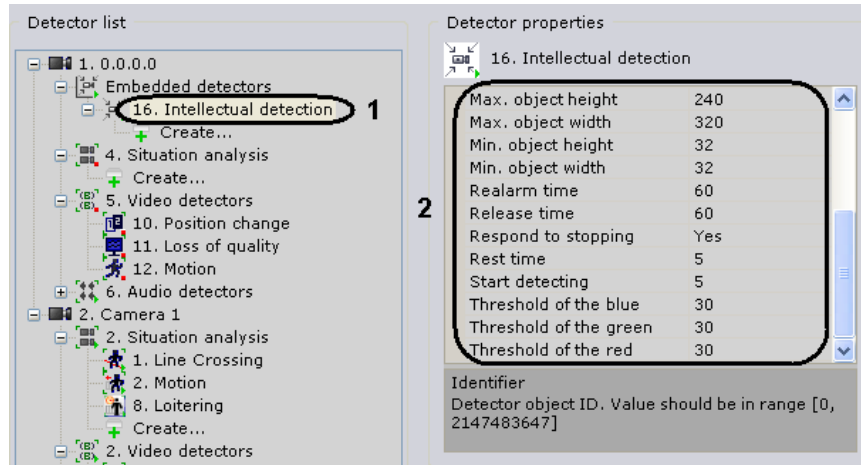

Fig. 6.4—21 Configuring a Sony Ipela detector
1. In the list of detectors, highlight an **Intellectual detection** object (Fig. 6.4—21, 1).
2. From the **Detect** list, select the desired detection mode: **Motion** or **Abandoned object** (see Fig. 6.4—21, 2).
3. If you selected motion detection (**Motion** in the **Detect** list), set the following parameters (see Fig. 6.4—21, 2):